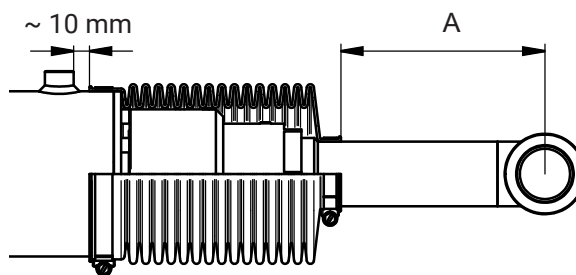

Figure 43. Installing boots
11. Fit the tilt cylinder boots. Figure 43.